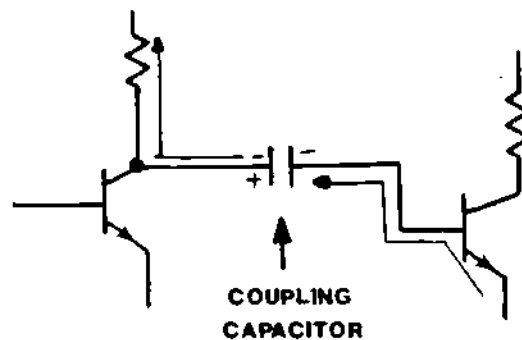

Figure 13
15. Often in electronics it is desirable to separate the voltage in one electrical circuit from another, yet couple the signal between the circuits. Although the coupling capacitor in an RC coupled amplifier does block DC between amplifier stages, the voltage isolation is not complete. Figure 13 shows a circuit diagram of a typical coupling capacitor between two amplifiers, and the charging current through the capacitor which prevents total isolation.